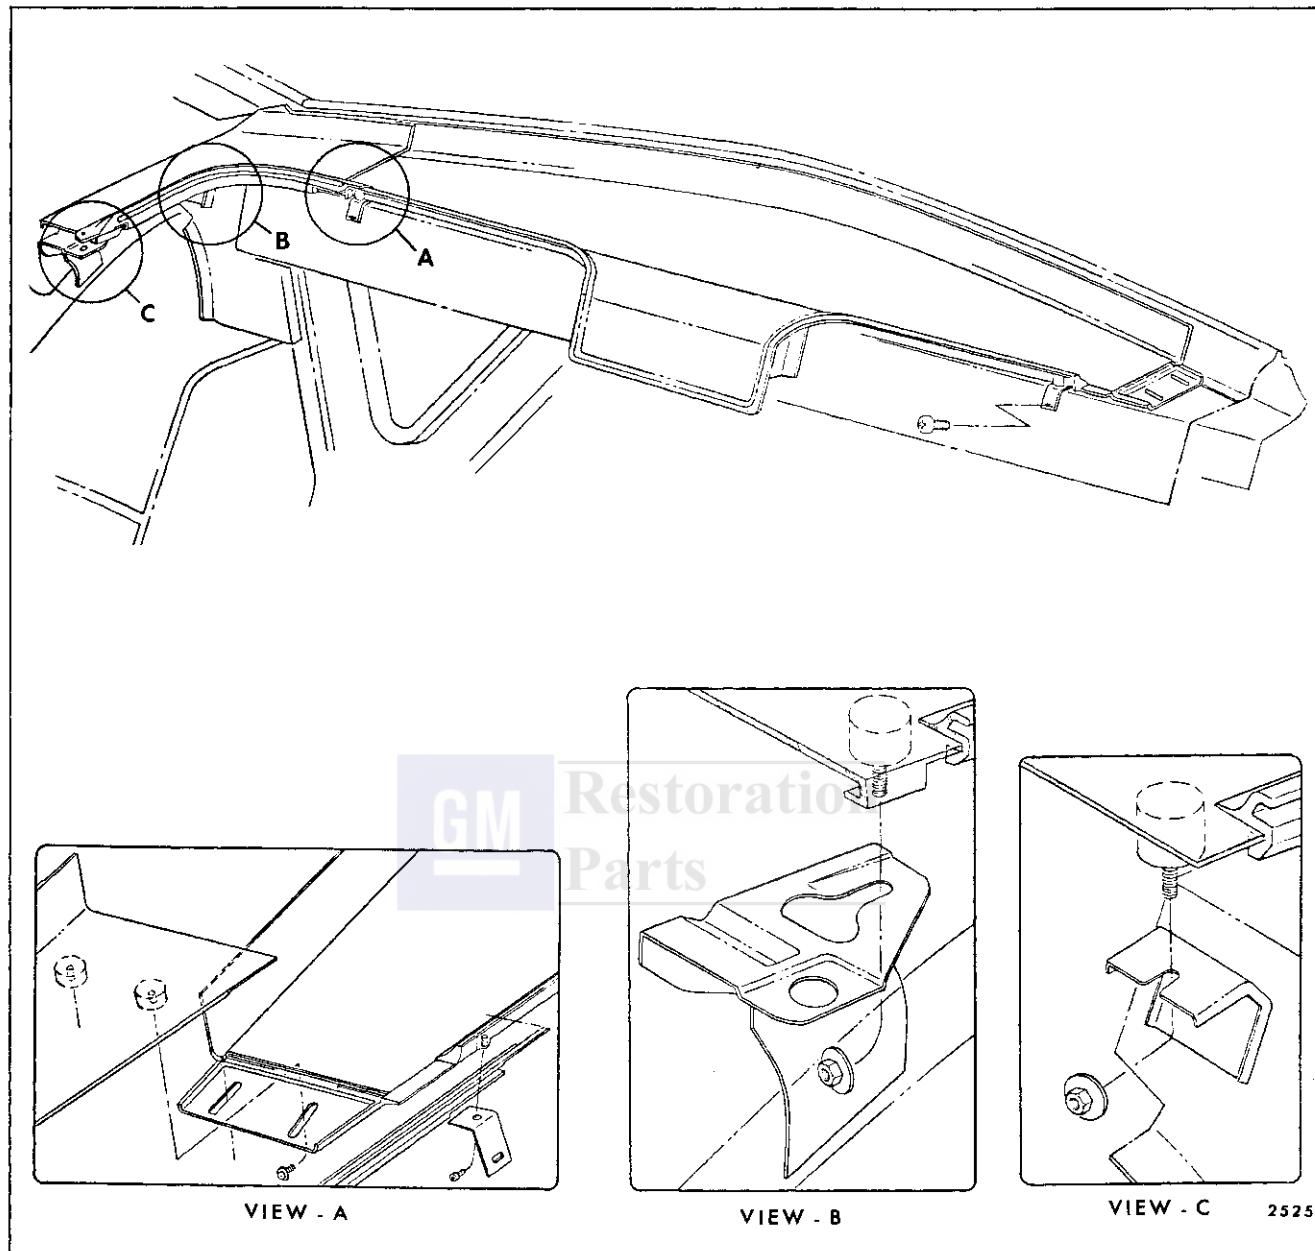
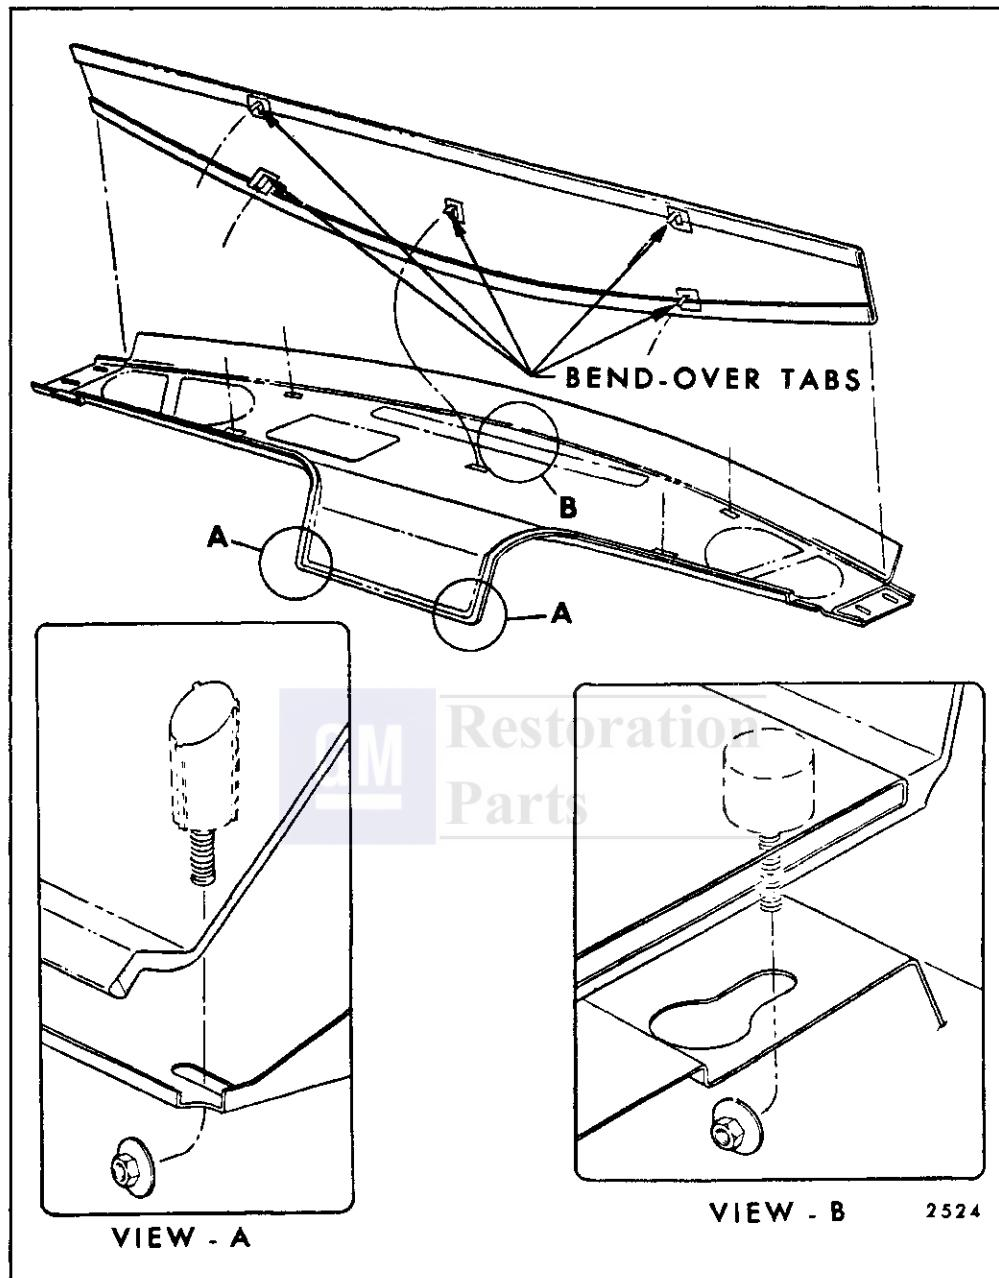

Fig. 14-36—Compartment Shelf Trim Panel — Cadillac "E" Styles
Fig. 14-37—Compartment Shelf Center Trim Panel —
4. Remove rear compartment side panel attaching screws (View "A", Fig. 14-36). Loosen compartment shelf to metal foundation nuts as indicated in View "C". Remove center section attaching nuts (View "A & B", Fig. 14-37 and View "B", Fig. 14-36).
6. To remove the center trim panel, bend metal tabs (Fig. 14-37) to straight down position and detach from center base panel.